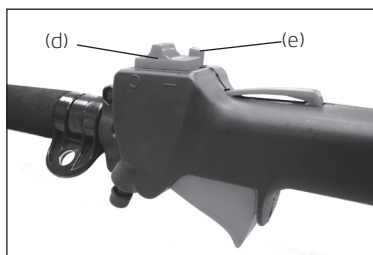

Fig 3 - Set the ignition switch (d) to the START (I) position. (e) is the throttle lock button.
Rest the unit on a flat, firm surface. Keep the cutting head off the ground and clear of surrounding objects as it may start moving when starting the engine. Set the throttle to “fast idle” as follows (1) Depress and hold the safety lock lever. (2) Squeeze and hold the throttle lever. (3) Depress the throttle lock button (Fig 3 -e). (4) While holding down the throttle lock button, release the throttle lever and safety lock lever. (5) Release the throttle lock button.